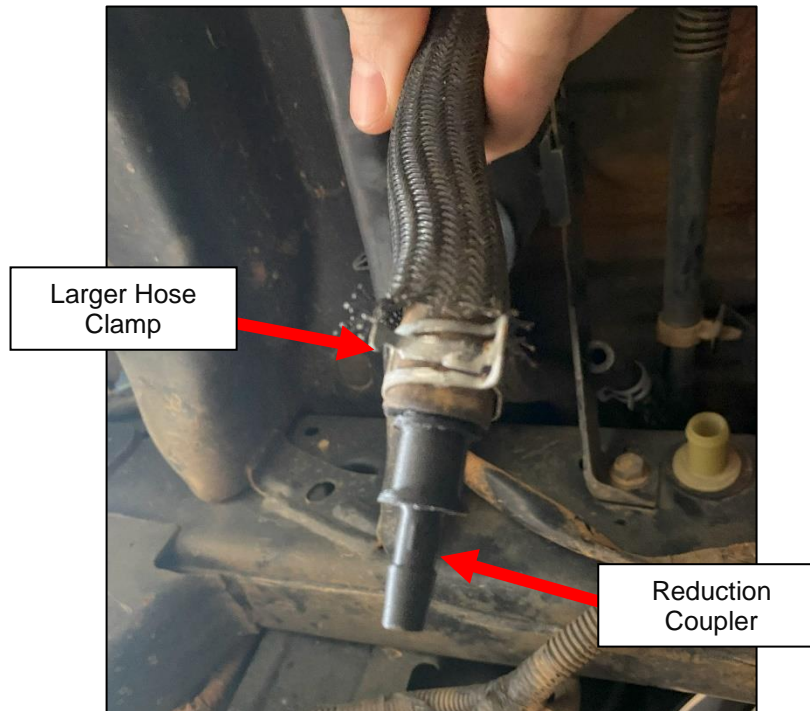

Figure 6
9. Install the larger end of the Reduction Coupler into the OE EVAP Breather and secure the Coupler with the Larger Hose Clamp. *Figure 6.*